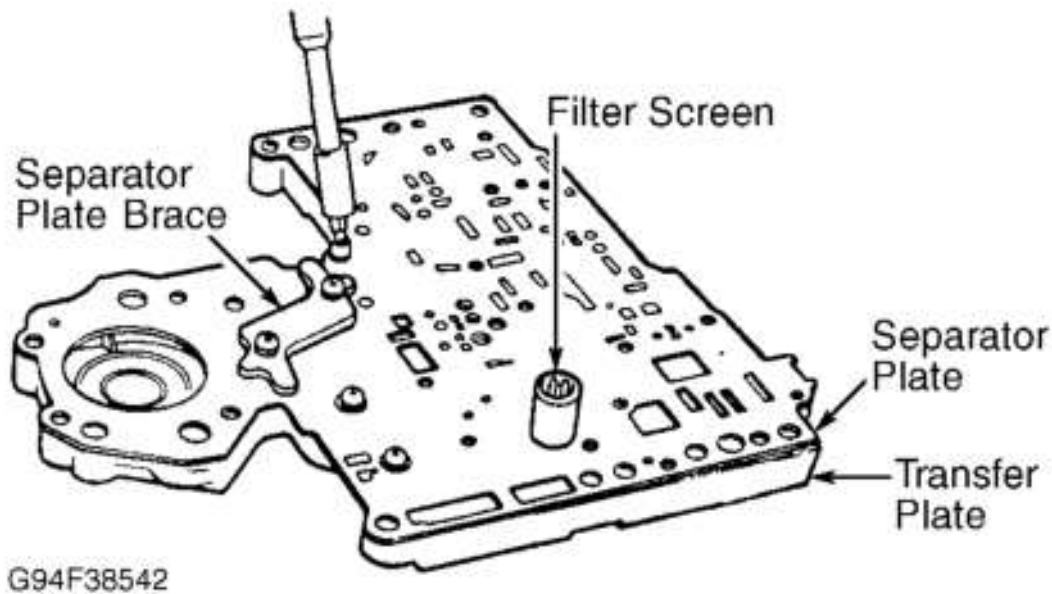

Fig. 36: Identifying Filter Screen & Separator Plate Brace
12. Position transfer plate with separator plate for upper housing facing upward. Remove screws, separator plate brace and separator plate for upper housing. See **Fig. 36** .
13. Remove separator plate for upper housing from transfer plate. Note location of filter screen in upper housing separator plate and check balls in transfer plate. See **Fig. 35** and **Fig. 36** .
3. Install rear clutch check ball and rear servo check ball in transfer plate. See **Fig. 35** . Ensure filter screen is installed in separator plate for upper housing. See **Fig. 36** .
4. Install separator plate for upper housing on transfer plate. Install separator plate brace. See **Fig. 36** . Install and tighten screws to specification. See **TORQUE SPECIFICATIONS** .